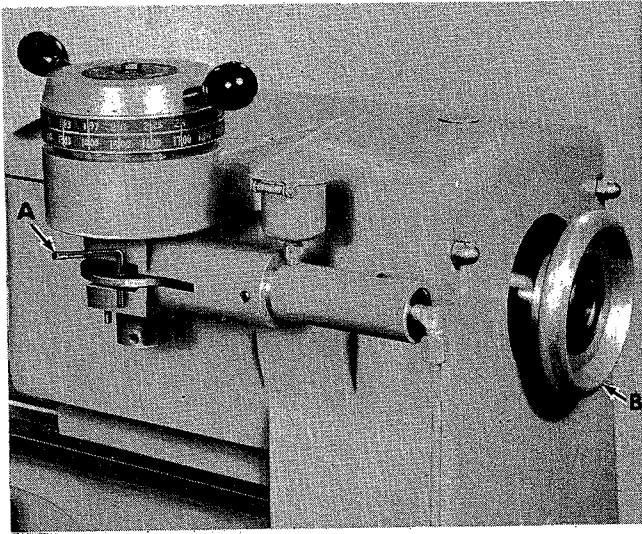
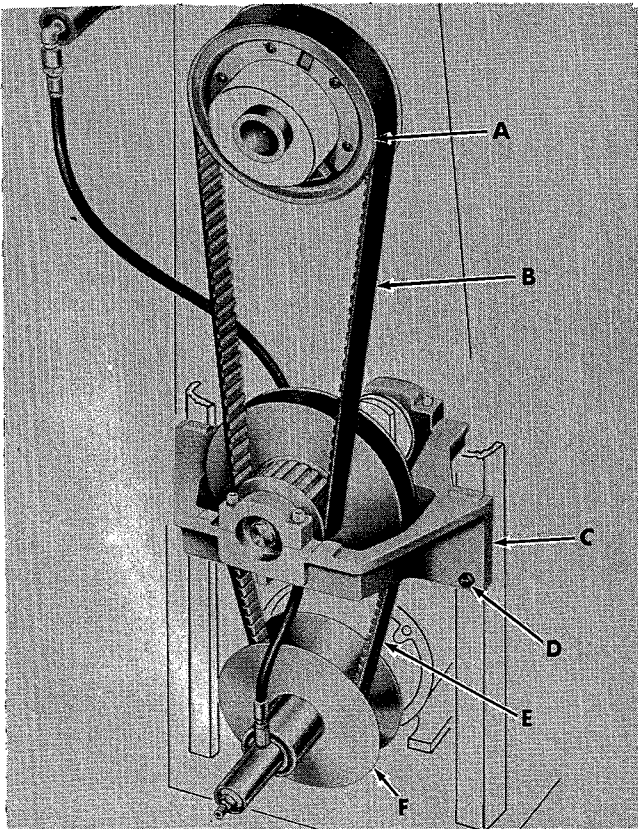
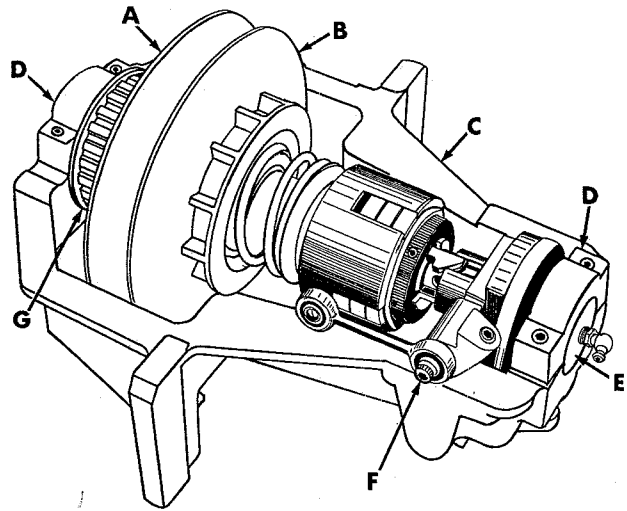

Figure 21
Figure 22
Figure 23
2. Remove spindle handwheel (B) (fig. 21), belt guards and front cover.
3. Turn variable dial back to lowest speed and lock dial in place with pin (A).
4. Holding variable dial against low speed stop, pull on outer sheave of lower variable motor pulley (F) (fig. 22) until variable belt (E) is loose.
5. Thru front cover opening, remove 5/16"-18 hex cap screw (F) (fig. 23) and spacer from clutch linkage.
6. Remove four hex nuts (D) (fig. 22). Raise countershaft (C) slightly and slip timing belt (B) off spindle pulley (A). Lower countershaft and slip variable belt (E) off variable motor pulley (F).
8. Remove bearing caps (D) (fig. 23), snap rings and countershaft spindle (E) from bracket (C).
11. Install spindle in countershaft bracket and secure in place with snap rings and bearing caps (D). IMPORTANT: Make sure timing belt is in place before installing bearing caps.
13. Position the countershaft (C) (fig. 22) so variable belt (E) can be slipped on motor pulley (F), then raise countershaft so timing belt (B) can be slipped on spindle pulley (A).
14. Place countershaft assembly on the four mounting studs (D), then snug up the four hex nuts. Refer to Tensioning Timing Belt steps 2-5.
16. Remove lock pin (A, fig. 21) from variable cam housing.
4. Pull on outer sheave of lower variable motor pulley (F) (fig. 22) until variable belt (E) is loose.
9. Remove timing belt from countershaft pulley (G).
10. Place new timing belt on countershaft pulley (G).
11. Install spindle in countershaft bracket and secure in place with snap rings and bearing caps (D). **IMPORTANT:** Make sure variable belt is in place before installing bearing caps.
12. Position the countershaft (C) (fig. 22) so variable belt (E) can be slipped on motor pulley (F), then raise countershaft so timing belt (B) can be slipped on spindle pulley (A).
13. Place countershaft assembly on the four mounting studs (D), then snug up the four hex nuts. Refer to Tensioning Spindle Belt steps 2-5.
15. Remove lock pin (A, fig. 21) from variable cam housing.